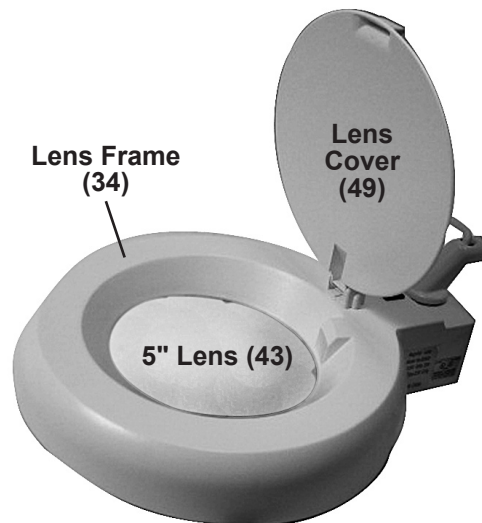

Fig. 2
3. To use the Magnifying Lamp, pull open the Lens Cover (49) from the Lens Frame (34). (See Fig. 2.)
4. Use the Adjusting Knob (31) to set the desired angle.
5. After each use, shut the Lens Cover (49) and remove the Power Cord (12) from the outlet.